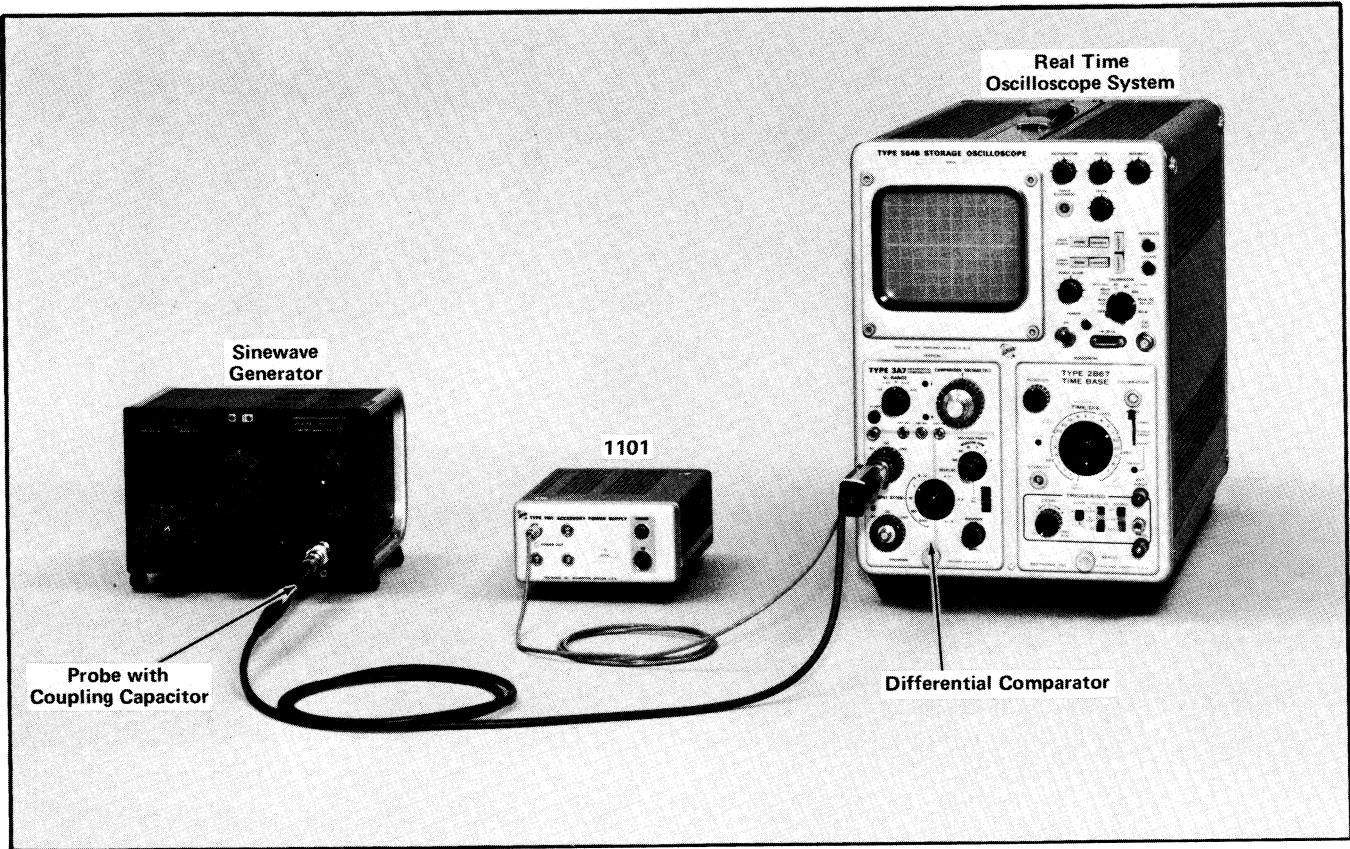

Fig. 5-7. Equipment setup for AC coupled low frequency response (step 9).
a. Equipment setup is shown in Fig. 5-7.